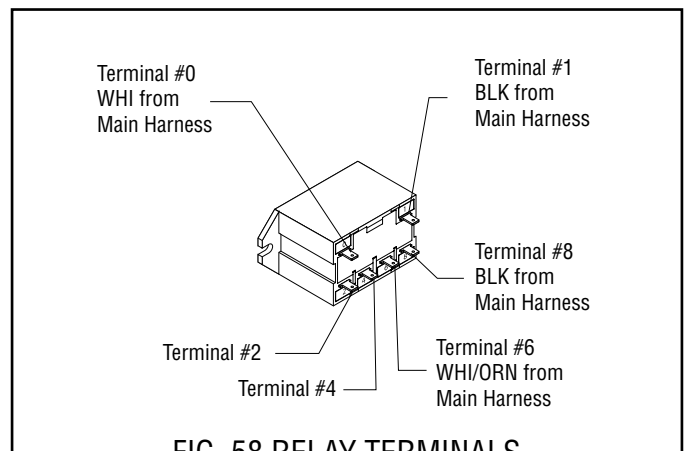

FIG. 58 RELAY TERMINALS
4. Refer to Fig. 58 to reconnect the wires.